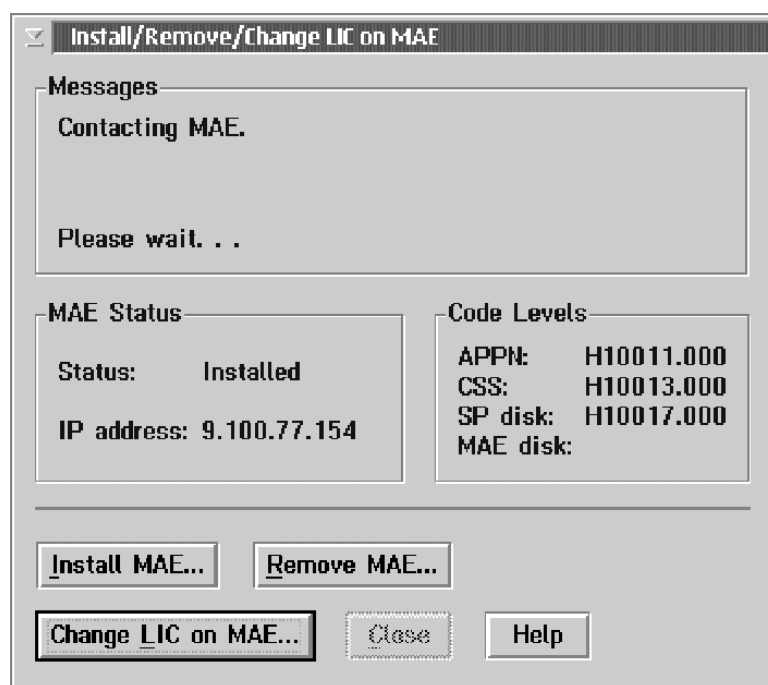

Figure 5. Changing MAE LIC Installation Window
3. From the **Multiaccess Enclosure (MAE)** folder, select the **Install/Remove/Change LIC on MAE** function, in order to replace the MAE LIC on the MAE hard disk with the MAE LIC stored on the service processor hard disk. The following window is displayed (Figure 5).